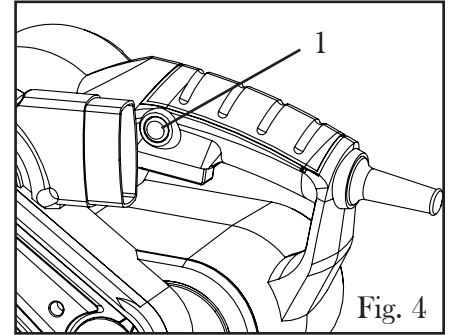

Fig. 4
2. Pull the trigger switch and allow the motor to reach full speed. For continuous operation, press in the power lock-on button located on the side of the handle (Fig. 4 - 1).